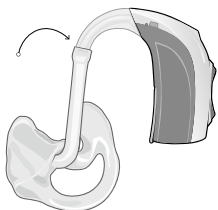

Fig. 1
- Disconnect the earmold from the hearing instrument by grasping the end of the earhook firmly with one hand and grasping the tubing firmly with the other hand (Fig. 1).
- When re-attaching the earmold to the hearing instrument, it is important to position it correctly, as shown in figure 1.